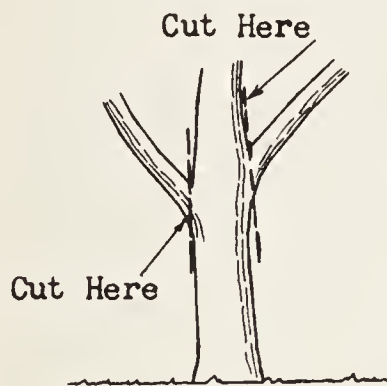

Figure 5
- 4.2 Cut off small branches at their meeting place with a limb that is growing in the direction you wish the tree to develop. In cutting a limb at a crotch, the cut should be parallel with the stem from which the limb has grown. It should be made as close as possible to the remaining branch in order that the bark may grow over the wound as quickly as possible. Undercut first to prevent stripping the bark. Do not leave stubs. The stub will die and be a starting place for decay and boring insects. Figures 5 and 6 of Exhibit A illustrate methods of cutting unwanted branches.